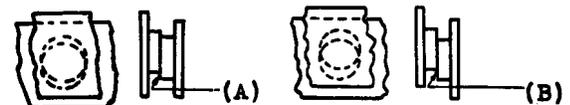

Fig. 2 - Contact Alignment
\* (b) Fig. 2(B) and 3(A) - The motor stop contacts shall line up so that their centers are not out of alignment more than 1/4 of the contact diameter. Gauge by eye.